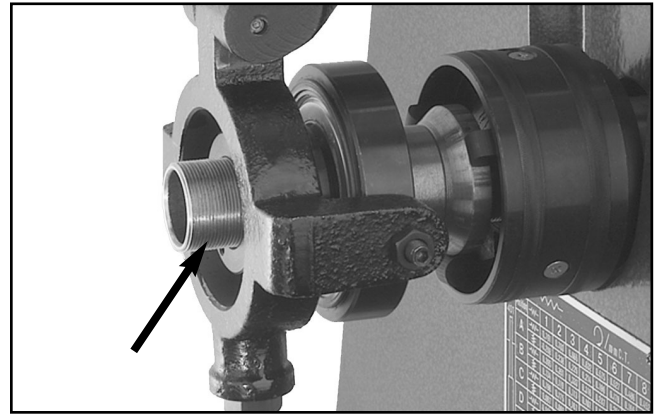

Figure 16. Location to rotate draw tube to remove or replace 5-C collets.
3. Rotate the draw tube counter-clockwise at the end of the collet closer (**Figure 16**) to unthread the collet.